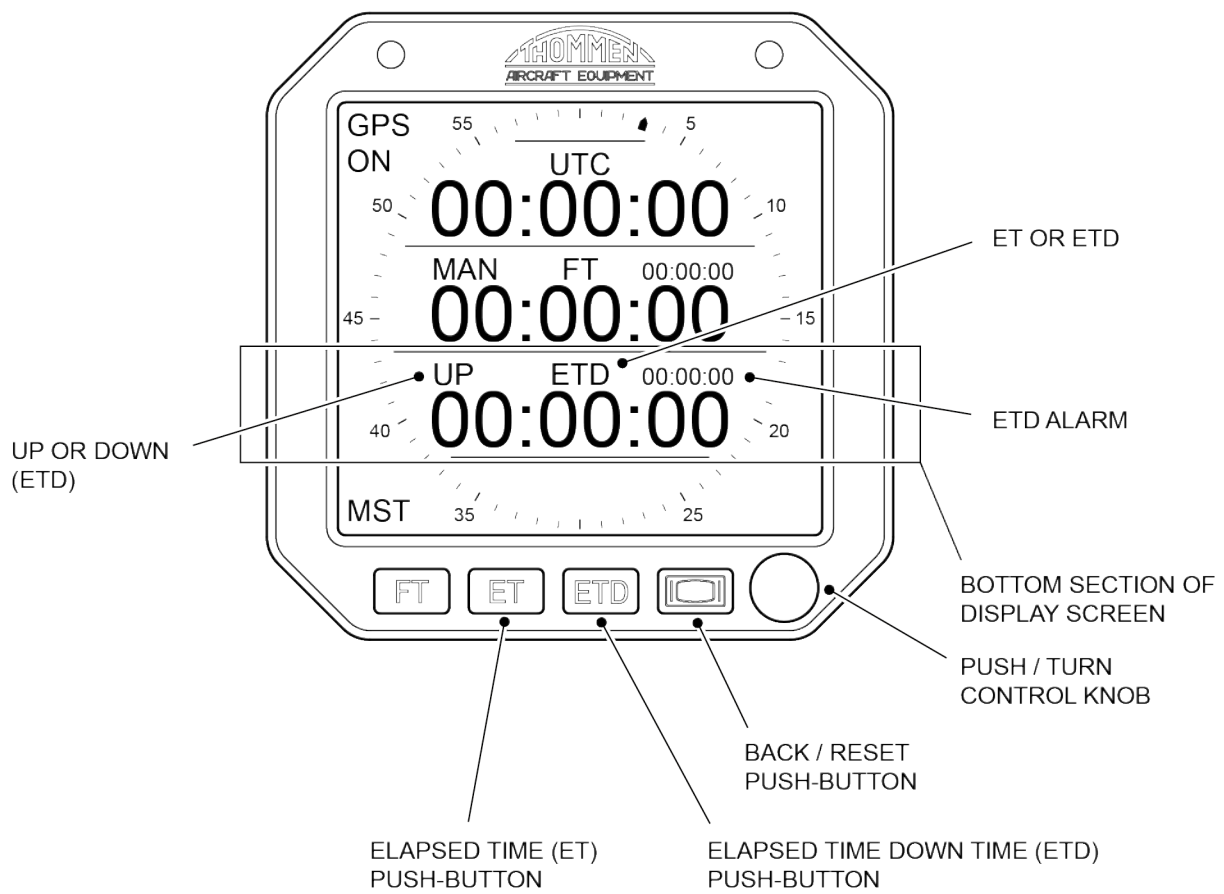

Figure 8 – Bottom Section of Display Screen
4.6 Setting the Elapsed Timer (ET), Elapsed Timer Down (ETD) and Elapsed Timer Down (ETD) Alarm
The elapsed timer (ET) and elapsed timer down (ETD) are displayed in the bottom section of the display screen (refer to Figure 8).